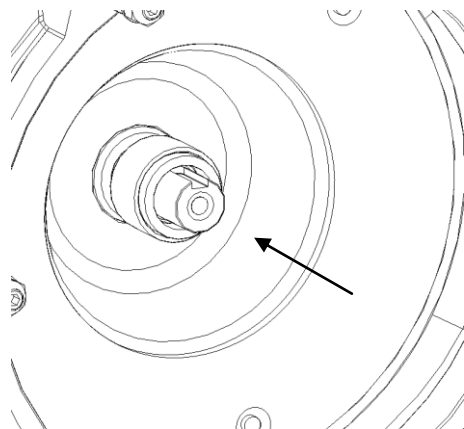

Figure 22: Manual pushing
- Put the mechanical seal onto the free shaft end and push it carefully by hand to the counter-ring (figure 22).